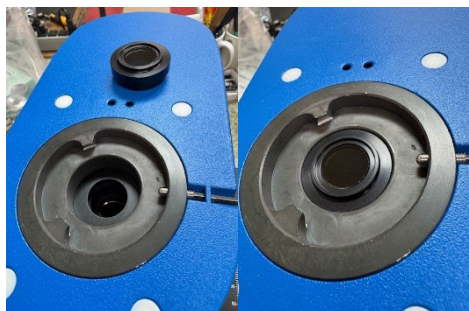

Fig. 32
1. To install the analyzer, remove the viewing head by loosening the locking screw ① with the included 3mm hex wrench. Do not remove the locking screw completely, rather loosen just enough that the head ② lifts off the frame ③.
2. Place the analyzer in the recess as shown in Fig. 32.